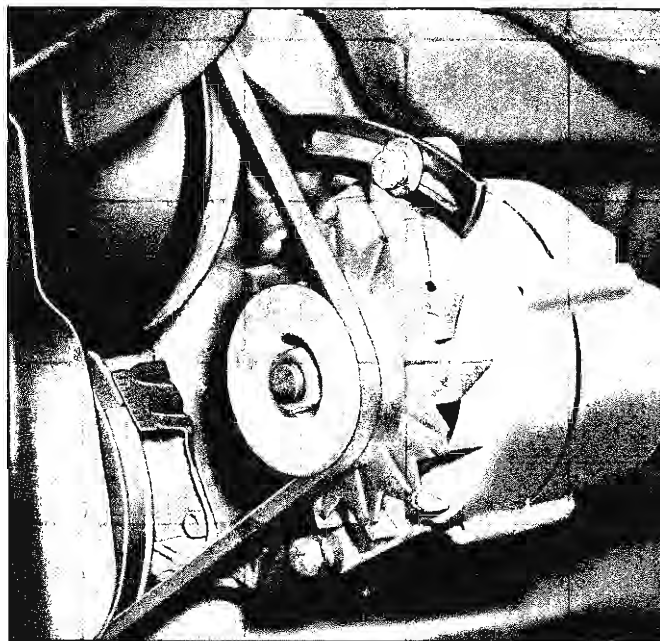

Fig. 19—Ignition Timing Marks (Typical)
3. Aim timing light at timing tab near harmonic balancer (fig. 19).